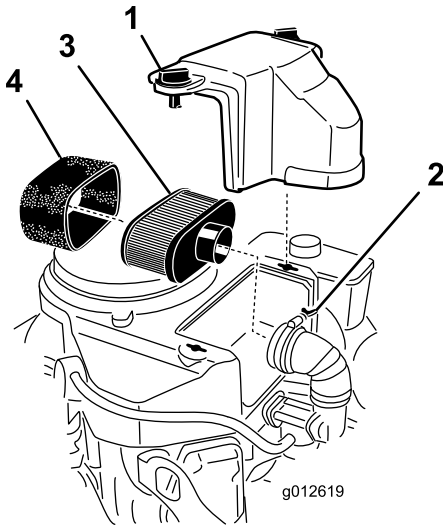

Figure 40
3. Clean around the air cleaner to prevent dirt from getting into the engine and causing damage (Figure 40).
4. Unscrew the cover knobs and remove the air-cleaner cover (Figure 40).
5. Unscrew the hose clamp and remove the air-cleaner assembly (Figure 40).
6. Carefully pull the foam element off the paper element (Figure 40).
**Note:** If it is very dirty, replace the paper element with a new one (Figure 40).
1. Carefully slide the foam element onto the paper air-cleaner element (Figure 40).
2. Place the air-cleaner assembly onto the air cleaner base or hose and secure it (Figure 40).
3. Place the air-cleaner cover into position and tighten the cover knob (Figure 40).